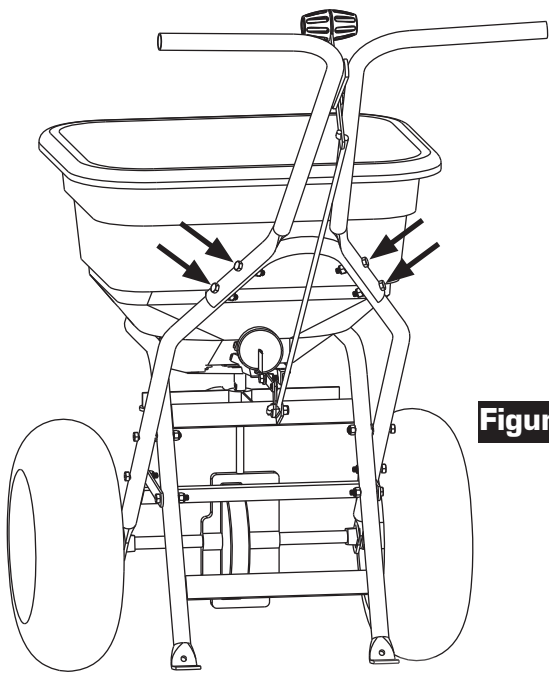

Figure 10
10. Attach Handle Assembly to Frame using (4) 1/4 x 1-1/2" Bolts and 1/4" Nylon Locknuts as shown in Figure 10.